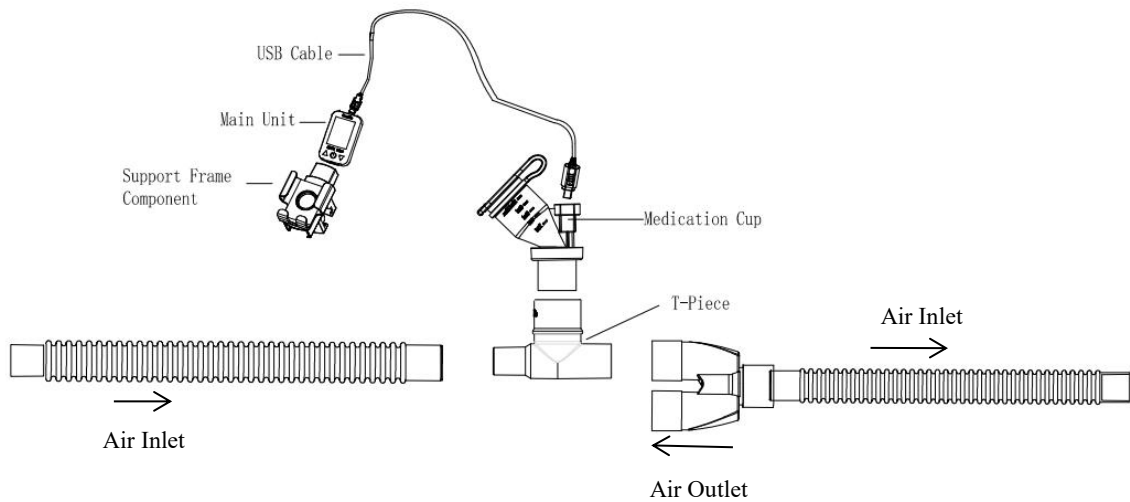

Figure 9. Connecting the T-Piece to a pediatric breathing circuit
6) For 15 mm pediatric breathing circuits connect the nebulizer with the Child T-Piece into the inspiratory limb of the breathing circuit before the patient Y, as shown for the Adult T-Piece in Figure 9.